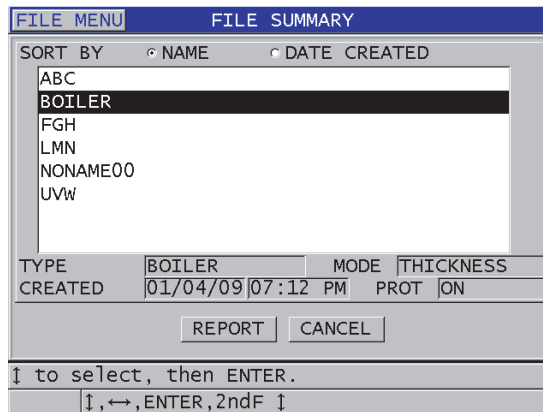

Figure 11-30 The **FILE SUMMARY** report screen
4. In the **FILE SUMMARY** screen (see Figure 11-30 on page 221):